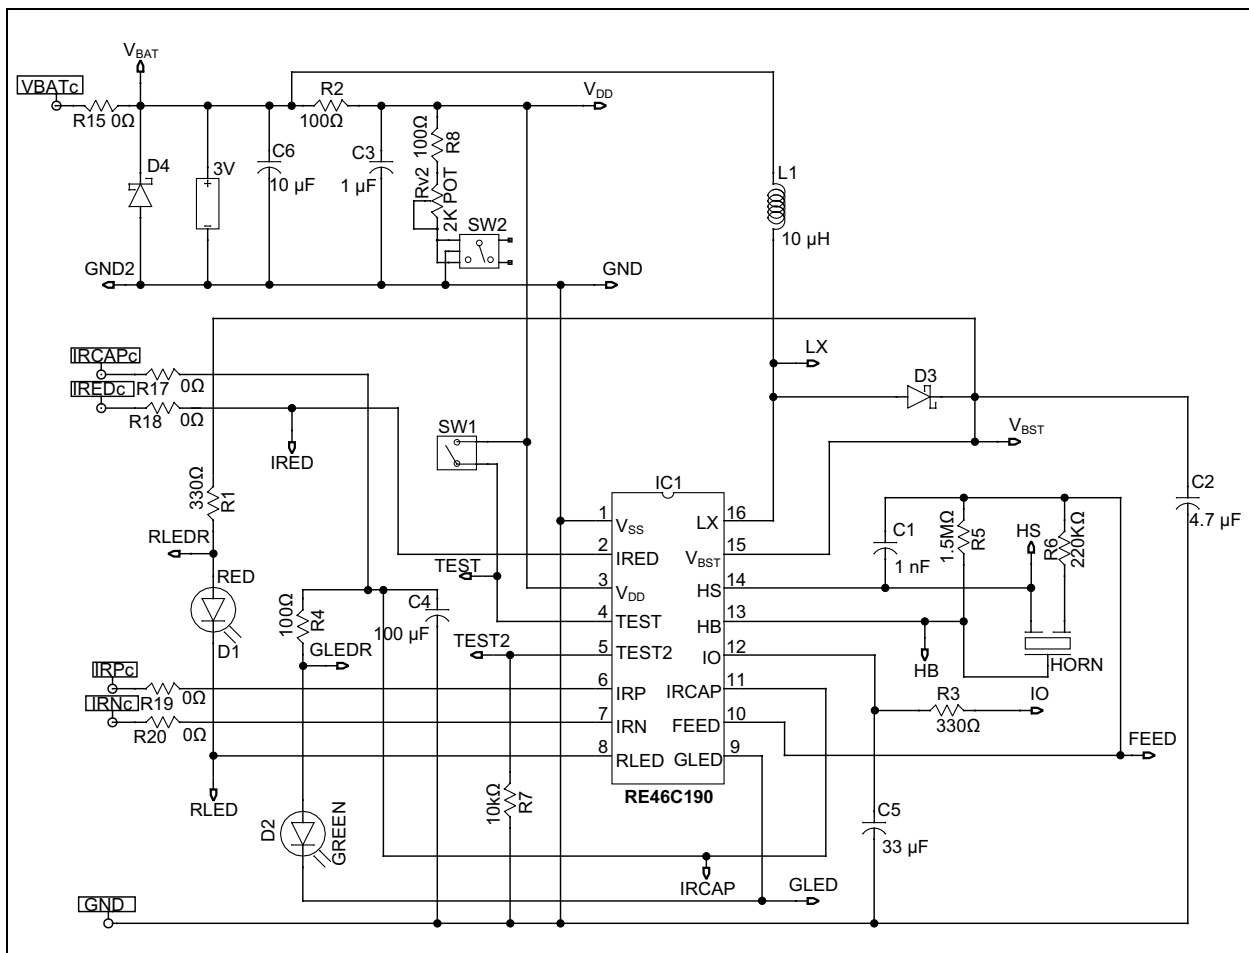

FIGURE 2-1: RE46C190 Application Circuit.
- RE46C190 application circuit (see Figure 2-1)